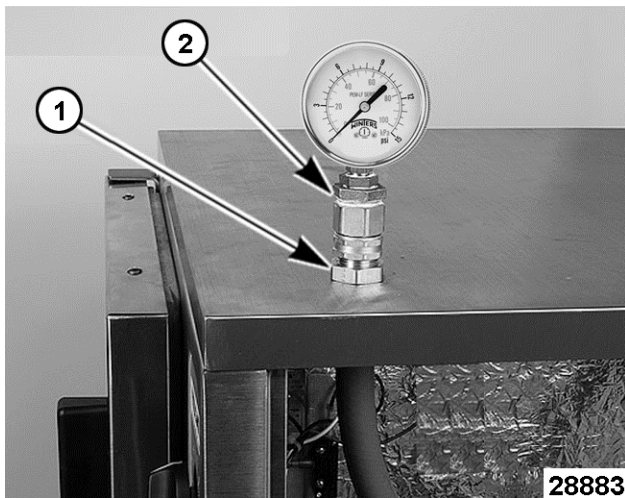

Fig. 73
3. Remove cap from delime port [1] Fig. 73 and install pressure gauge [2] Fig. 73. See TOOLS.